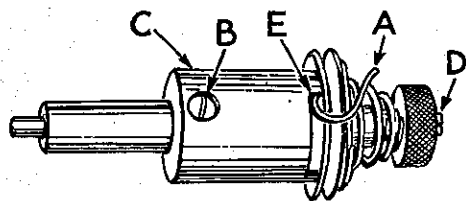
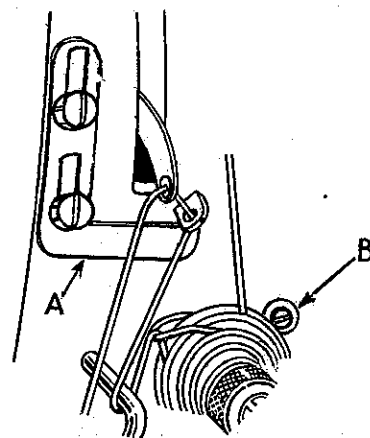
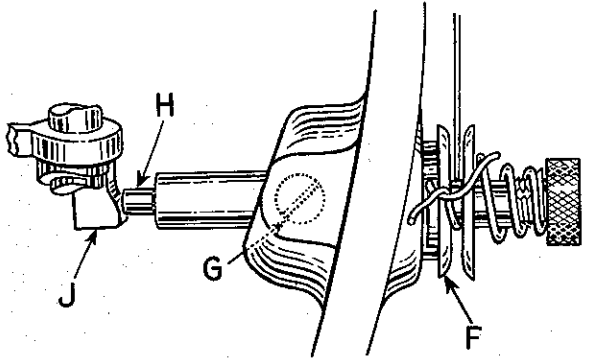

Fig. 10
Fig. 11
Fig. 12
Test check spring tension (A, Fig. 10). There should be enough tension to insure a good returning snap when spring is depressed and released. Should it require adjusting, loosen set screw in the head on right side of tension post (G, Fig. 12) and remove tension post assembly. Partially loosen tension post set screw (B, Fig. 10) in tension post socket (C). Holding the socket in the left hand, turn the tension post (D) counterclockwise with the right hand until the check spring moves away from the upper stop (E) and has no tension on it. Turn the tension post (D) in a clockwise direction until the spring again touches the upper stop (E). Then, proceed further in the same direction until the desired tension is obtained. When correctly set, the tension post set screw (B) should be drawn up snugly, but not forcefully. Further adjustment of the check spring tension can be made by inserting a screw driver into the slotted end of the tension post (D) and turning in the required direction.
The frame take-up eyelet (A, Fig. 11) should be set at its highest position.
The tension assembly should be located in bed from front to back, so that when the presser foot is raised to its highest position, the tension discs (F, Fig. 12) are opened just enough to allow the thread to pass through the discs freely.
Re-tighten set screw (G), turn tension assembly adjusting screw (B, Fig. 11) counterclockwise until it contacts the flange of the tension post socket.
To position the tension assembly, see that set screw in bed (G, Fig. 12) is loose and tension assembly adjusting screw (B, Fig. 11) is screwed down to the bed.
Lift the presser foot hand lifter to its highest position. With the left hand, grasp the thread and pull it through the tensions, with the right hand, push tension post deeper into the machine until release pin (H, Fig. 12) pressing against the presser bar connection (J) has opened the tension discs just enough to allow the thread to pull through freely.